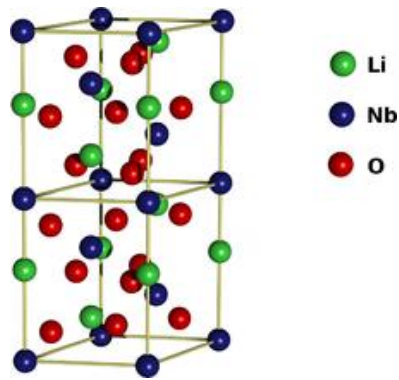

Figure 1. Crystal structure of LiNbO_3 (credit Wikipedia).
Lithium niobate (LiNbO_3) is the embodiment of human ingenuity. It is a manmade crystal of niobium, oxygen, and lithium (Figure 1). Remeika is often credited with growing the first large LiNbO_3 single crystal around 1949 (1). LiNbO_3 crystal has a high melting point, 1,257 °C, to be exact and is colorless. Its high transparency window, non-centrosymmetric property, high Curie temperature (~1200 °C), and acoustic property make LiNbO_3 crystal a great candidate for applications in photonics. As a matter of fact, LiNbO_3 modulators are widely used in fiberoptic communications.